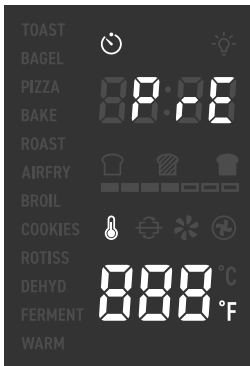

Figure 1.1
1. When you start the cooking function by pressing **START/CANCEL**, preheating will start automatically. The START/CANCEL button will light up, and the display will show "PPE". [Figure 1.1]